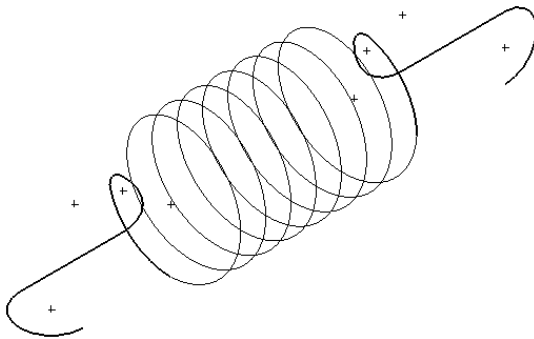

Figure 9-122 Final path of the spring
- b. Create the side clips of the spring, refer to Figure 9-122.
Similarly, create the sketch of the left end-clip. Figure 9-122 shows the path of the spring after creating the helical curve, right end-clip, and the left end-clip.